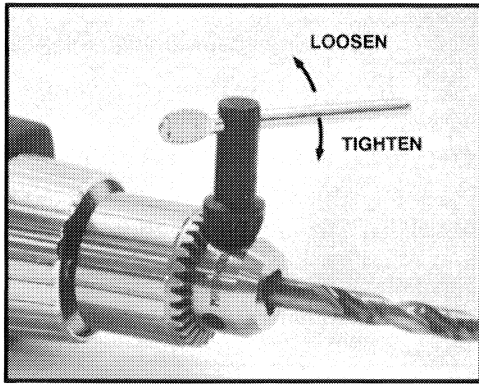

Fig. 4
5. Tighten chuck — insert chuck key into each of 3 keyholes in chuck body (Fig. 4) in succession and tighten securely by turning key clockwise.